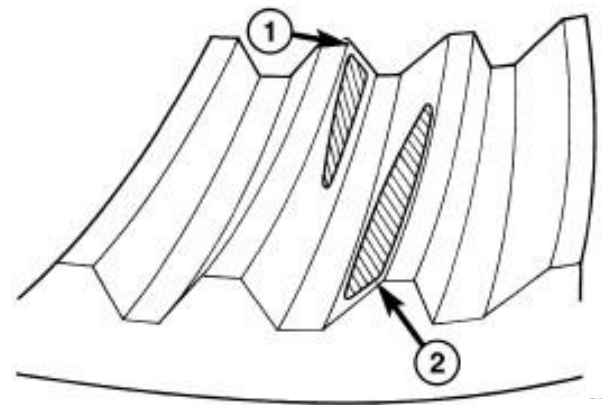

Figure 39
- The ring gear is too close to the pinion gear, drive side toe (1) and coast side heel (2). Increase backlash, by moving the ring away from the pinion gear using the adjusters (Figure 39).